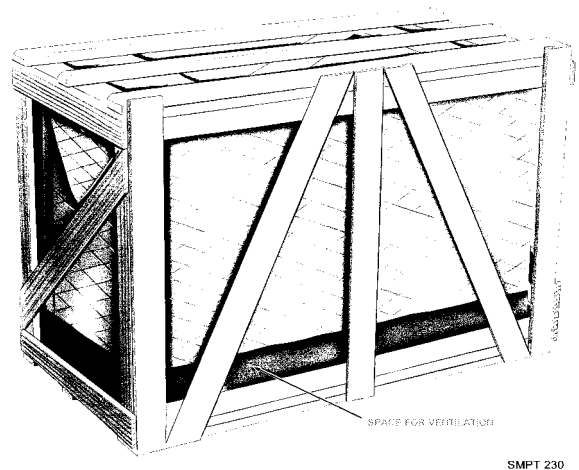

Figure 4-9. Weatherproofing #2.
- X Identify the method of weatherproofing in figure 4-9.